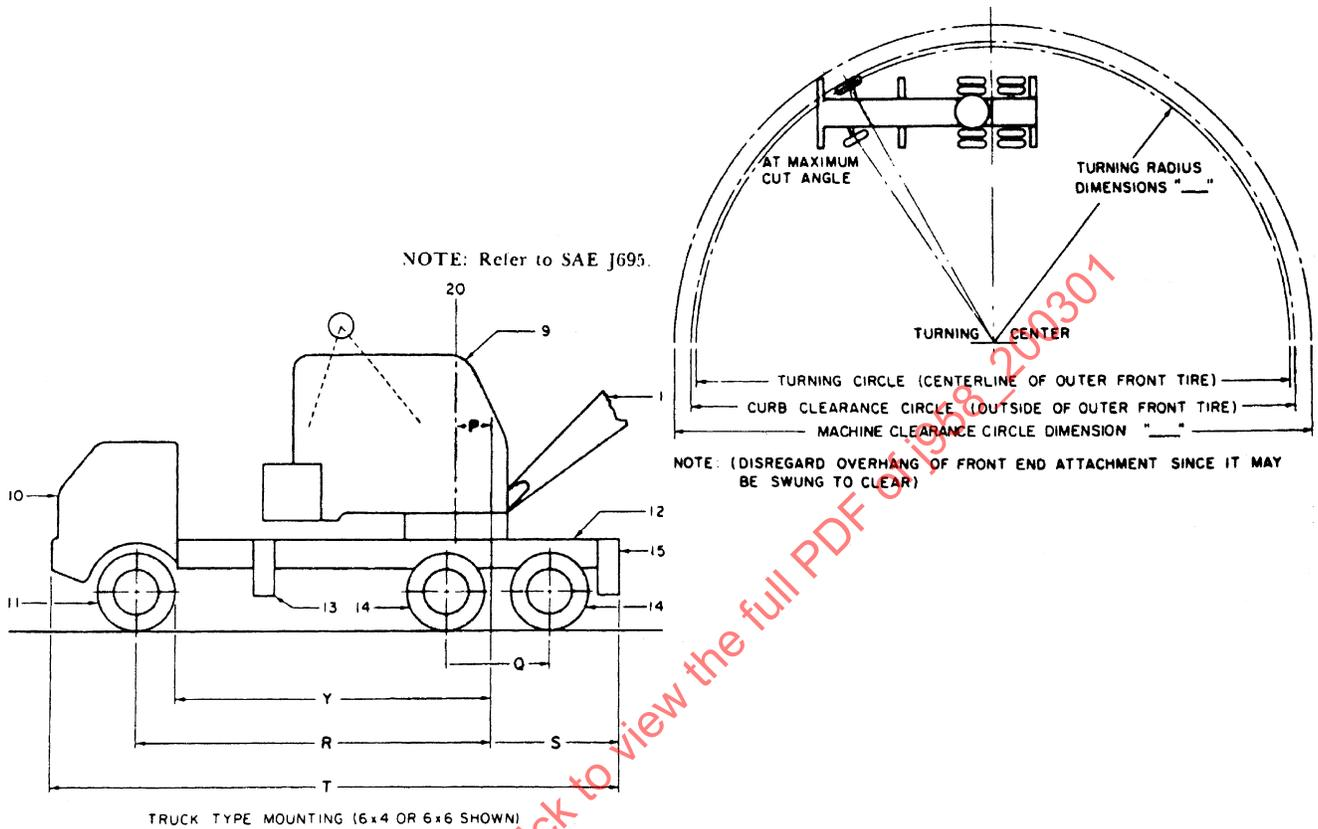

FIGURE 1—RUBBER TIRE CARRIER MOUNTINGS WITH REVOLVING SUPERSTRUCTURE
3. Rubber Tire Carrier Mountings with Revolving Superstructure—See Figures 1 and 2.